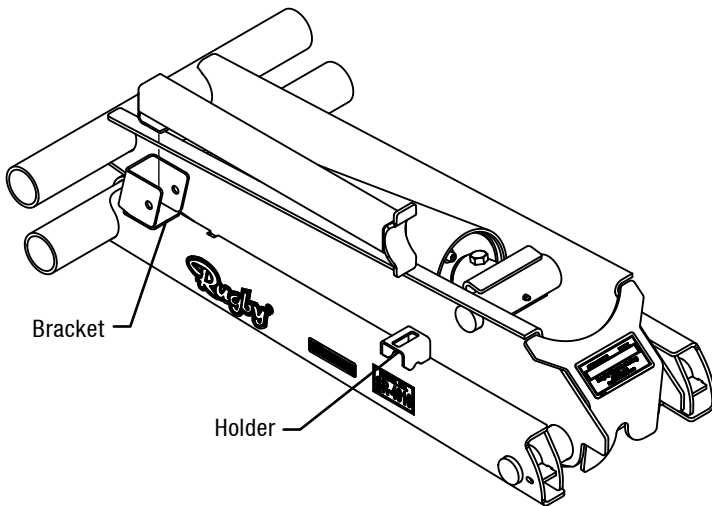

Figure 8: Body Prop Installation Location
1. Insert the body prop into the body prop bracket (Figure 8).